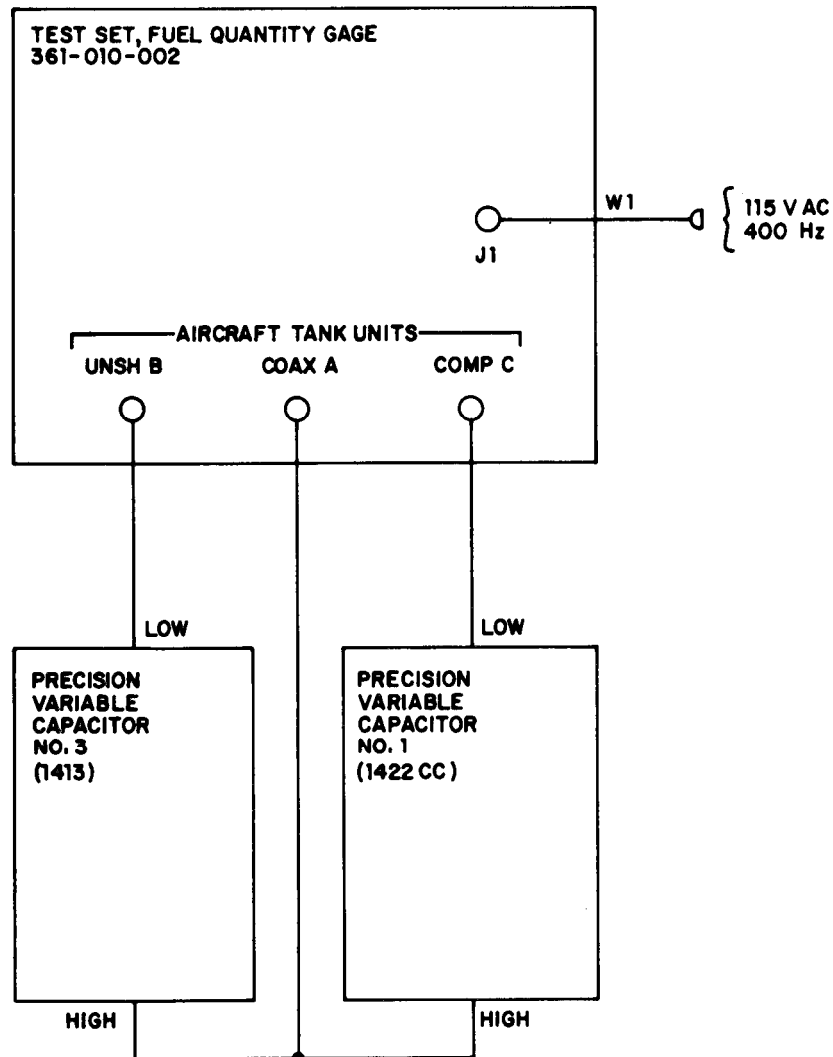

Figure 4-1. Capacitance measurement and simulation checkout, setup diagram
(2) Connect equipment as shown in figure 4-1.
(3) Set POWER ON/OFF switch (20) to ON. Check that POWER ON indicator (19) lights.
(4) Depress DISPLAY TEST pushbutton switch (4). Check that digital display (7) reads 8.8.8.8.8.8.